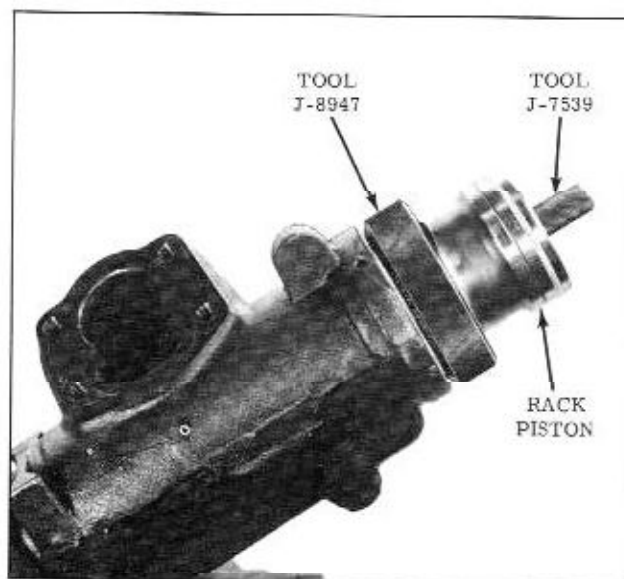

Fig. 4-100 Installing Rack Piston
- c. With Ball Retainer J-7539 in place in the rack-piston, push the rack-piston into the housing until Tool J-7539 contacts the center of worm. (Fig. 4-100)